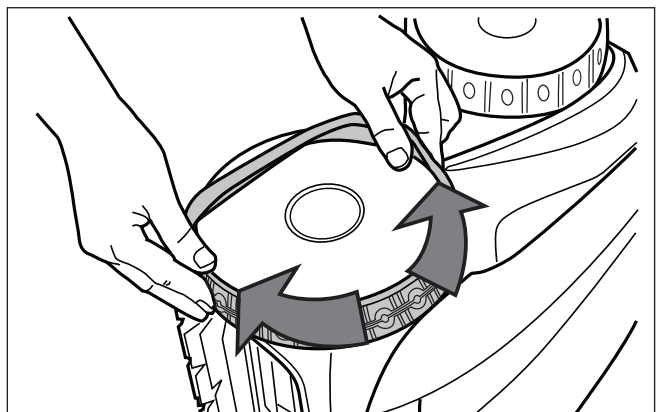

Figure 32. Work the Tyre On Around the Wheel
6. Work the tyre onto the wheel and verify the rib of the tyre is positioned properly within the groove of the wheel (Figure 32).